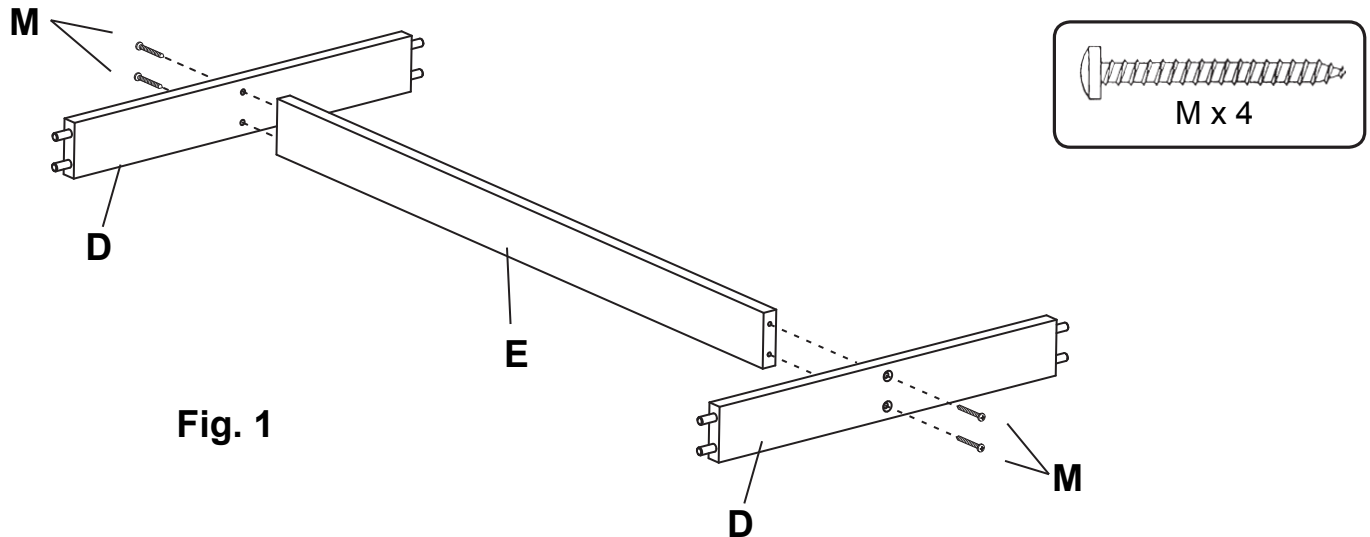

Fig. 1
1. Attach Side Stretchers (D) to Middle Support (E) using #10 x 1 $\frac{3}{4}$ " Pan Head Screws (M). Countersunk holes should face outward so the buttons can be inserted later. See Figure 1.